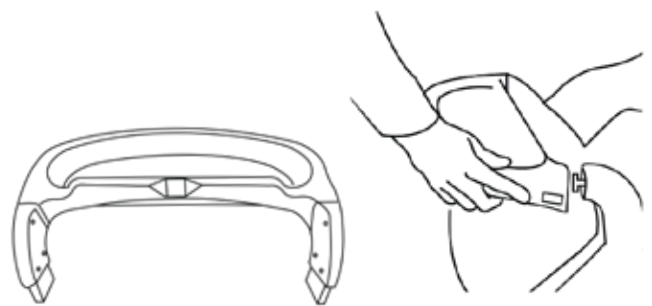

Fig. 8
12. To attach the child tray: Rotate and align left and right side of child tray posts with the left and right side stroller tray posts. Press left and right side child tray posts into left and right side stroller tray posts into a fully locked position. Press left side child tray button and snap child tray onto stroller tray posts. Release button to lock child tray onto stroller (Fig. 8). Repeat on right side of child tray. Check to make sure the child tray is securely attached to the stroller by pulling upward on the child tray.